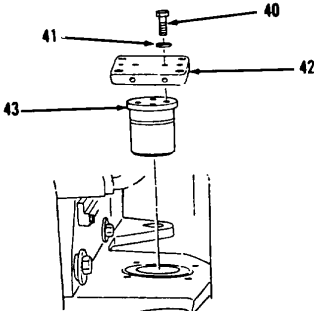

Figure 16-11.
- 22. Remove two bolts (40), lockwashers (41) and plate (42) from pin (43, Figure 16-11).